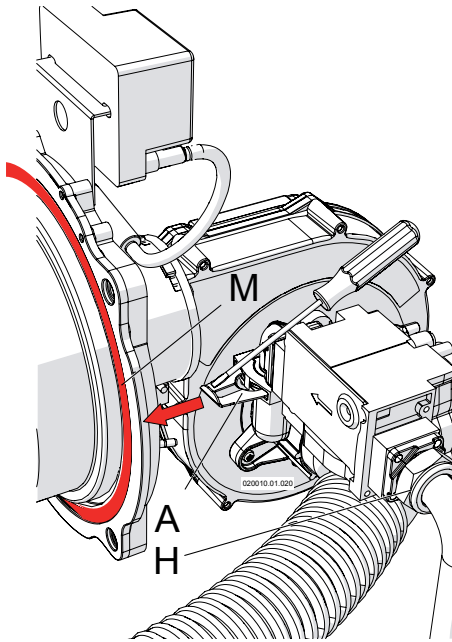
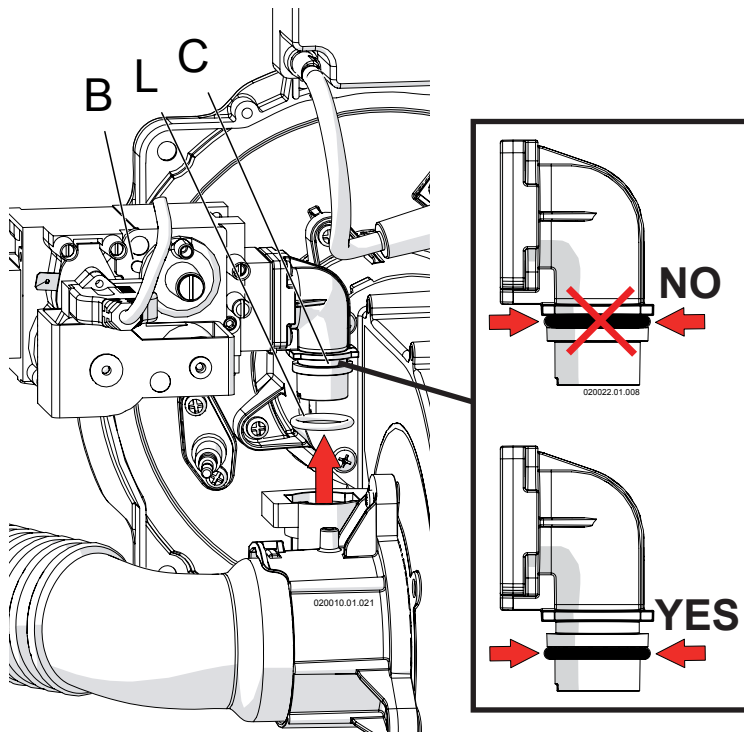

Figure 13-3 - Dismantle the gas valve
Figure 13-4 - Lift the gas valve
- 4.- Unscrew nut "H" as per Figure 13-3;
- 5.- With the help of a screwdriver, remove spring "A" (see Figure 13-3);
- 6.- Remove the gas valve from its site "C" as per Figure 13-4 (take care attention to o-ring "L" of Figure 13-4);
- 8.- Reinstall the gas valve, paying close attention to the o-ring "L" of Figure 13-4 and to the gasket between gas valve and nut "H" of Figure 13-3;
- 9.- Insert again the spring "A" of Figure 13-3;
- 10.- Tight nut "H" of Figure 13-3;
- 12.- Check for any gas leaks on nut "H" of Figure 13-3;